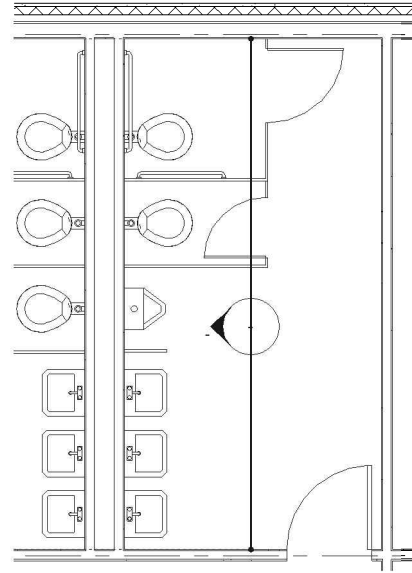

FIGURE 11-1.14 Elevation tag added
38. Switch to **Level 1** and place an [interior] **Elevation** tag looking towards the wet wall, the wall with fixtures on it (Figure 11-1.14).
Your view should look like Figure 11-1.14. Notice how the lavatories (i.e., sinks) do not have faucets shown? This is because the *Detail Level* is not set to *Fine*. *Families* have the ability to be set up to show more or less detail as needed. The lower detail settings can make Revit run faster, but often the detail is needed to properly coordinate and annotate the drawings.